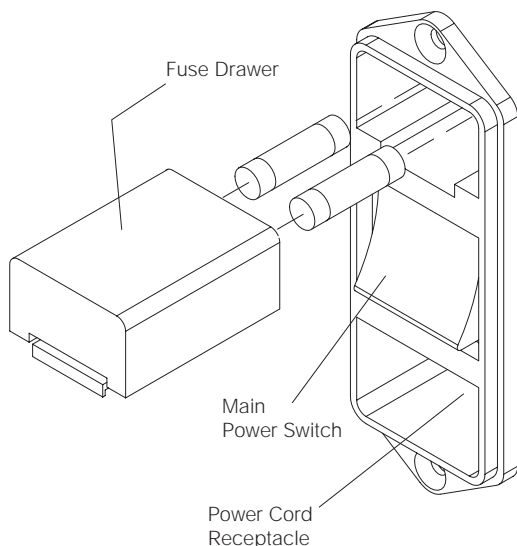

Figure 8: Power Connections
1. The power cord connection is located on the upper right corner in the rear of the unit (see Fig. 8).
3. Remove the fuse drawer, install the fuses included with the power cord to be used, and reinstall drawer (see Fig. 8).